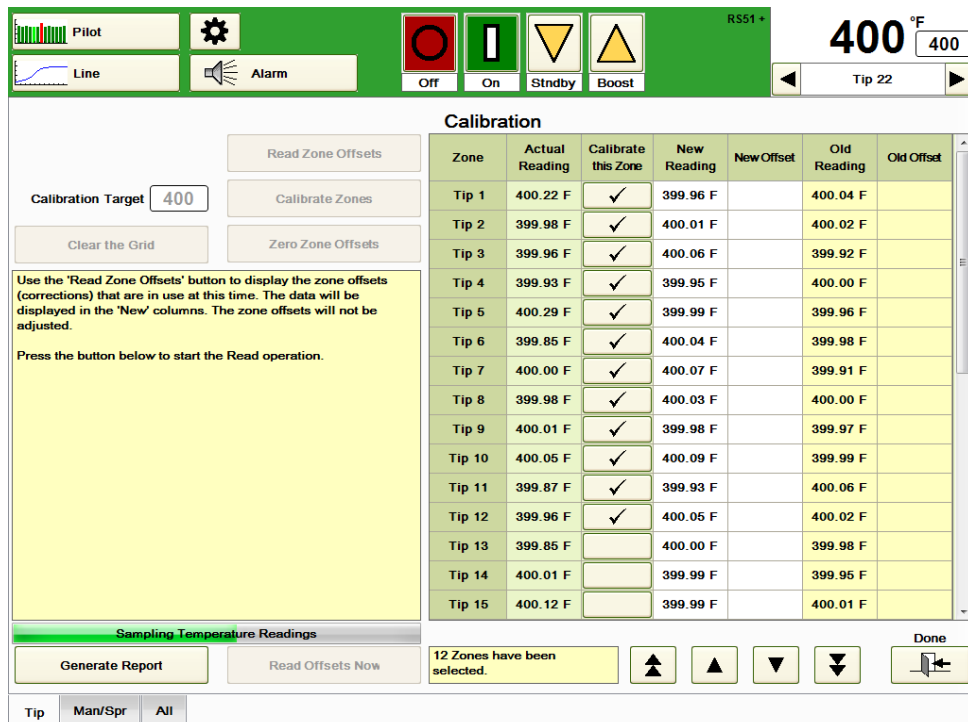

Figure 24b Read Zone Offsets
During calibration, the target temperature is compared against the incoming thermocouple signal. Any error found between the target and the actual is corrected by the HPS-C-PRO⁺ assigning a **New Offset** for each zone. The controller remembers both the **New Offset** and the **Old Offset**, which was the setting from the previous calibration procedure. Pressing the **Calibration** button will cause the screen in Figure 24b to appear.
- 6) Select **Read Zone Offsets** and then **Read Offsets Now** at the bottom of the screen. The temperature reading of each zone will be displayed in the **New Reading** column. The new Zone Offsets will be shown in the **New Offset** column as shown in Figure 24b. The box below the table shows the number of zones selected.